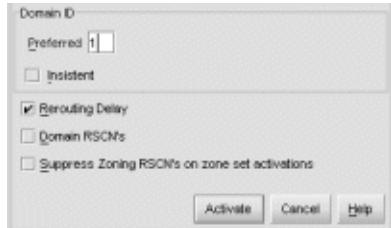

Figure 19 Configure Switch Parameters dialog box
2. Select **Configure > Operating Parameters > Switch Parameters**. The Configure Switch Parameters dialog box is displayed (Figure 19).